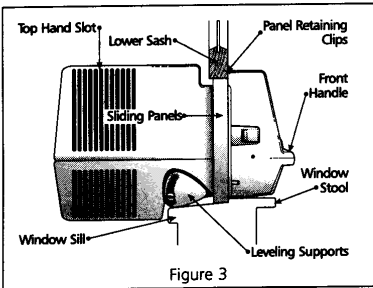

Figure 3
- Raise panel retaining clips to unlock sliding panels. Firmly grip unit by top hand slot and front handle. Place unit in window opening so front edge of sliding panels butts against back edge of window stool (Figure 3).
- Keeping a firm grip on front handle, apply a downward force to support the unit, then close window so lower sash rests in groove on top of unit (Figure 3).